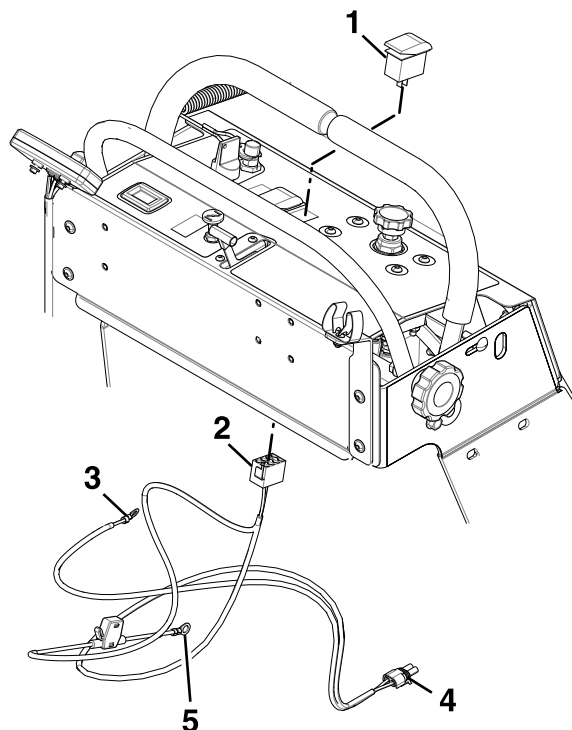

Figure 7
11. Connect the pump connector from the tank assembly to the accessory pump connector (item 4 in Figure 7).